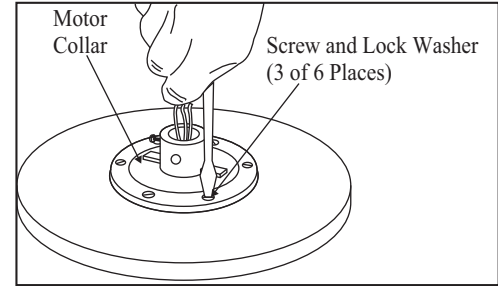

Figure 12
- Remove three of the six screws and lock washers (every other one) from the collar of top motor (Figure 12).